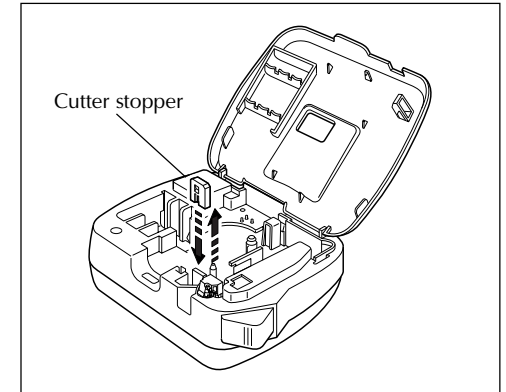
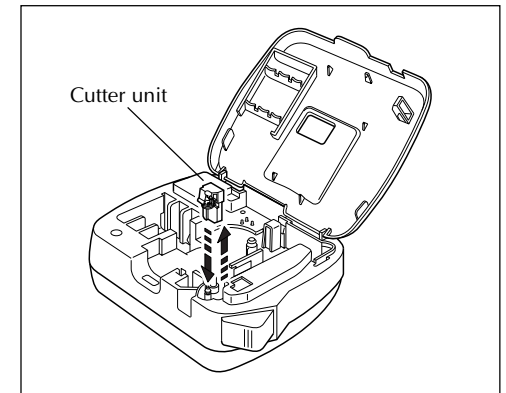

Figure 1
Figure 2
- ❶ Fold open the back cover, and then remove the tape cassette.
- ❷ Replace the cutter stopper by pulling it straight out, then sliding a new one over the metal bar as shown in figure 1.
- ❸ Install the tape cassette, close the back cover, and then check if the tape can be cut cleanly.
- ❹ If the tape still cannot be cut cleanly, fold open the back cover, and remove the tape cassette. Next, replace the cutter unit by grabbing it at the top and pulling it straight out, then grabbing the top of the new cutter unit and sliding it over the metal pin as shown in figure 2. Finally, install the tape cassette, close the back cover, and then check that the tape is cut cleanly.